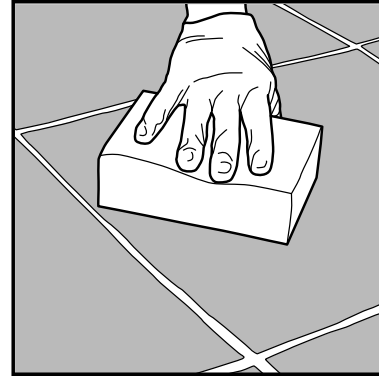

FIGURE 20 Use light pressure to remove the residue
- Use a firm square edge sponge to remove the excess water solution. Use light pressure and wipe diagonally across the joints (Fig. 20). Do not allow the water to flow into the un-grouted joints or accumulate in finished areas.